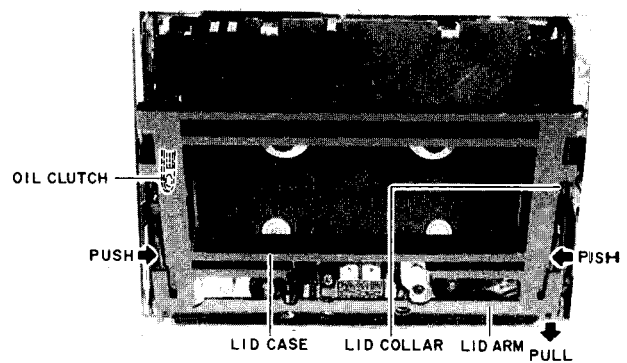

Fig. 4-1
- 4) While pressing down on both sides of the lower part of the lid case with your hands, disengage the lid case from the right-hand lid collar and lid arm. Next, disengage the lid case from the left-hand lid collar, lid arm and oil clutch. (See Fig. 4-1.)